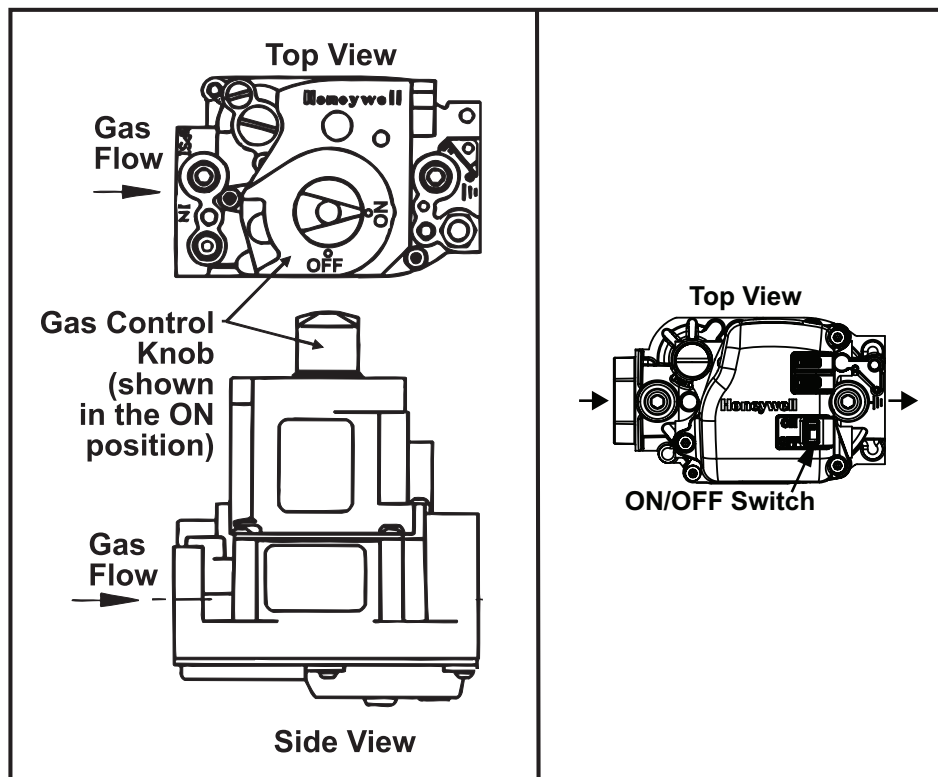

Figure 9. Gas Valve ON/OFF Control
3. Open access door and locate gas control (ON/OFF) knob or switch on gas valve (see Figure 9).